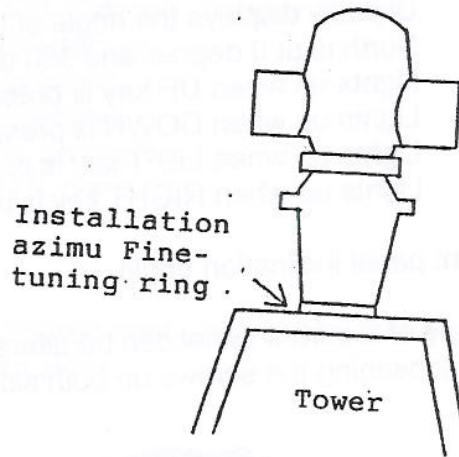

Figure 1.
1. When attaching the horizontal component and the elevation angle component of EV-800DX as one unit to the upper part of a tower, etc., make sure that the N marking (after the SN) on the pedestal of the elevation angle component is facing due North (magnetic North). (The horizontal component connector is due South). At installation, fine tuning is done with the attached installation azimuth fine tuning ring. See Fig. 1
**Installation of horizontal-elevation angle single body\*\* (s. fig. 1)****\*\* Horizontal rotation\*\***